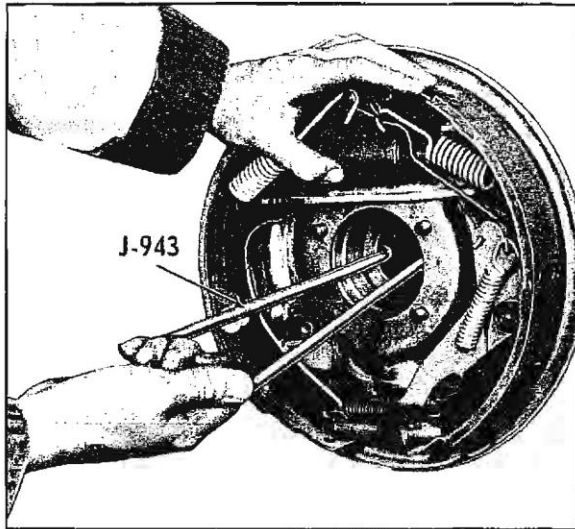

Fig. 4-14 Removing Axle Shaft Seal
1. Insert tongs J-943 (Fig. 4-14) behind seal and pull straight out to remove seal. Discard seal.